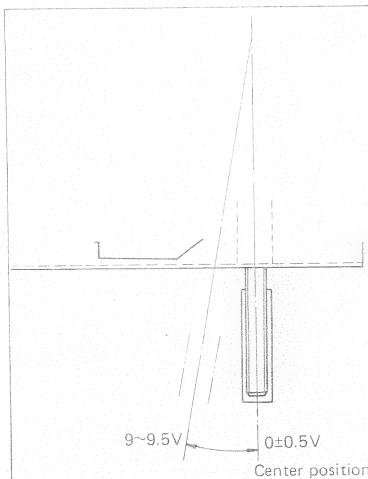

Fig. 19
- (2) Adjust VR 201 so that voltage reads 9.0 to 9.5V when tonearm is swung to left side by hand (See Fig. 19), and then adjust eccentric pin (B) so that voltage reads -0.5 to $+0.5$ V when tonearm locates at the center (See Fig. 19, 20).